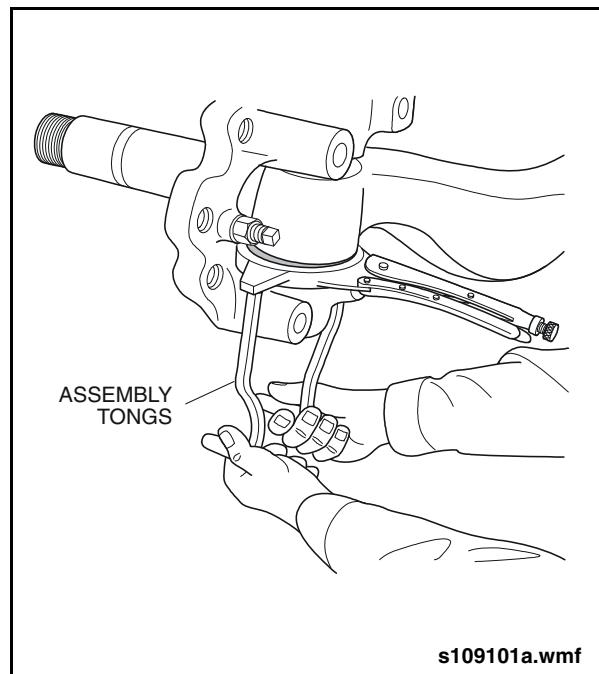

Fig. 1-29: Thrust Bearing Sleeve Positioning Tool
9. Using the thrust bearing sleeve positioning tool (Item 50 from special tools list) slide dust guard sleeve on thrust bearing up until it locks into position. *See "Fig. 1-29: Thrust Bearing Sleeve Positioning Tool" on page 26.*